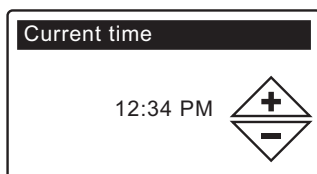

FIG. 17
- 5. CURRENT TIME** Press the DOWN (▼) or UP (▲) buttons to set the current time (See Figure 17). Hold the button down to rapidly advance. Be sure that AM or PM is correct. If the system units were set to metric in Step 3, the clock will be in 24-hour format.